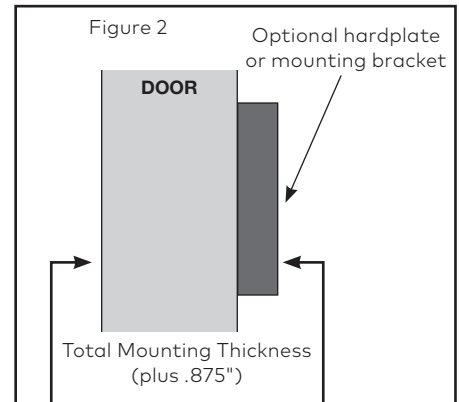

Figure 2
- Measure total mounting thickness (door thickness + mounting plate) (Figure 2).